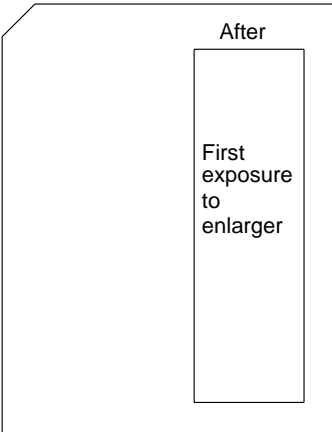
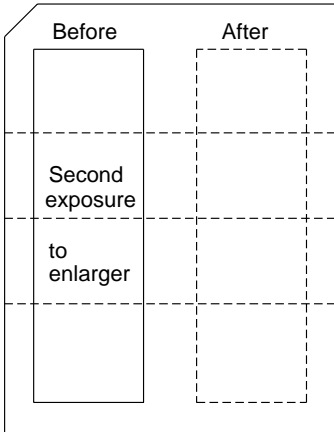

Figure 1
Figure 3
1. Set up the enlarger. Insert the negative carrier with no negative in it into the enlarger. Set up the easel with a mask to expose an area as shown in Figure 1.
4. Make the first enlarger exposure. *All* the lights should be off. For orientation, cut a corner from a fresh sheet of the photographic paper, and position the paper under the mask (see Figure 1). Expose the paper, using the time and aperture you determined in step 3. Label this area "After" to indicate safelight exposure that occurs *after* the enlarger exposure.
- Make the second enlarger exposure. With the paper oriented as in step 4 (Figure 1), position the marks to expose the opposite side of the paper. Give this area an exposure identical to the one given in step 4. Label this area "Before" to indicate safelight exposure that occurs before the enlarger exposure. (See Figure 3.)